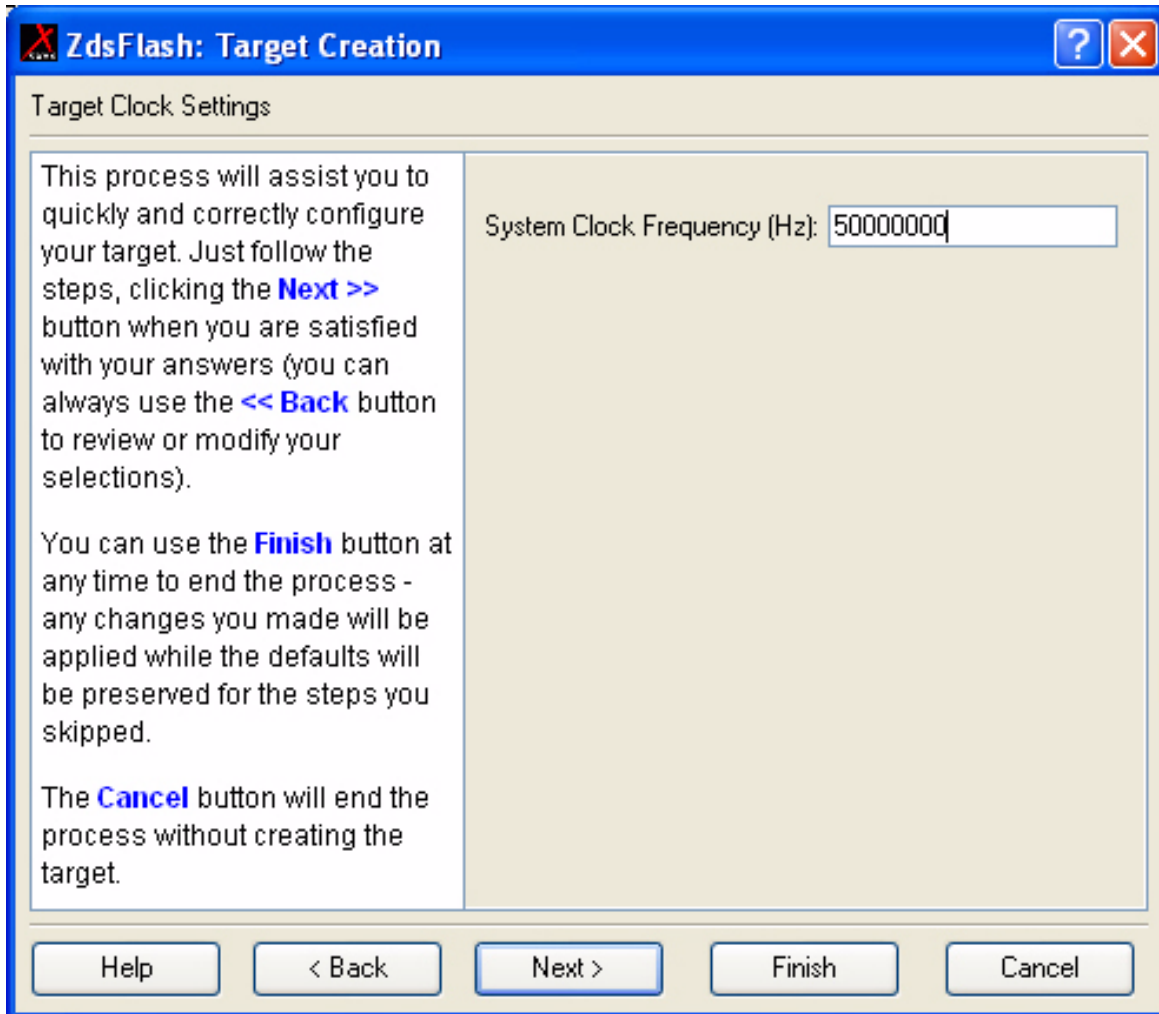

Figure 83. Target Clock Settings Window for eZ80Acclaim!®
5. The **Target Clock Settings** window is displayed (see Figure 83).
6. In the **Target Clock Settings** window (see Figure 83), the default clock frequency for the selected CPU will be displayed in the **System clock Frequency** text box. You can also enter a new appropriate system clock frequency.